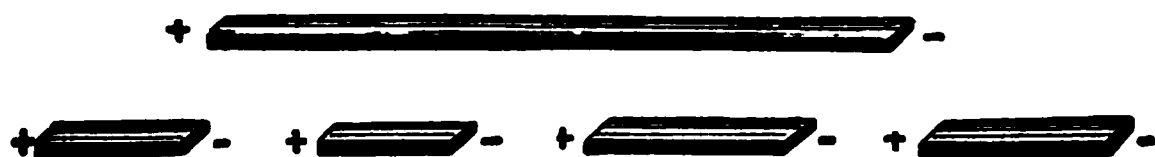

Fig. 74. The result of Breaking a Magnet is Several Short Magnets.
(5) Pounding or jarring a permanent magnet weakens it. So does heating it red hot.
(6) If a magnet is broken, each piece is a perfect magnet with two poles. No matter into how many pieces you break a magnet, each is still a magnet. See Fig. 74.
(7) If a thick piece of steel is magnetized and then laid in nitric acid for some time, when the outer surface has been eaten off, a test for magnetism will show that *the bar has lost almost all its polarity*. Magnetism is *evidently only skin deep*.
(8) Four bars $6 \times 1 \times \frac{1}{4}$ inches magnetized and